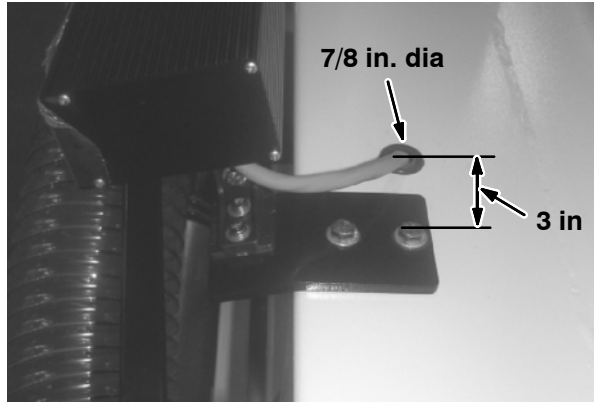

FIG. 12
18. Drill a 7/8 in. hole into the top of the hopper. Refer to Fig. 12.
19. Insert a grommet (6) into the hole drilled in the previous step. Refer to Fig. 12.
26. Route the cable from the arrow stick light (1) down through the 7/8 in. hole drilled in Step 18. Refer to Fig. 12.